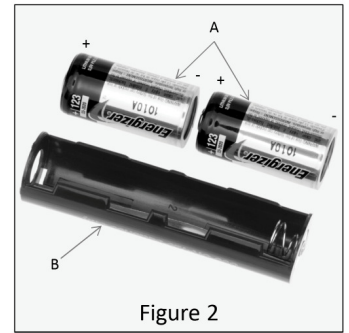

Figure 2
2. Install the two included CR-123 Batteries (Figure 2-A) into the CR-123 Battery Carrier (Figure 2-B). The positive terminals on each battery should be oriented in the direction of the arrow on the CR-123 Battery Carrier and then inserted into the flashlight with the + end terminals pointing in the direction of the flashlight's bezel (Figure 3-A).